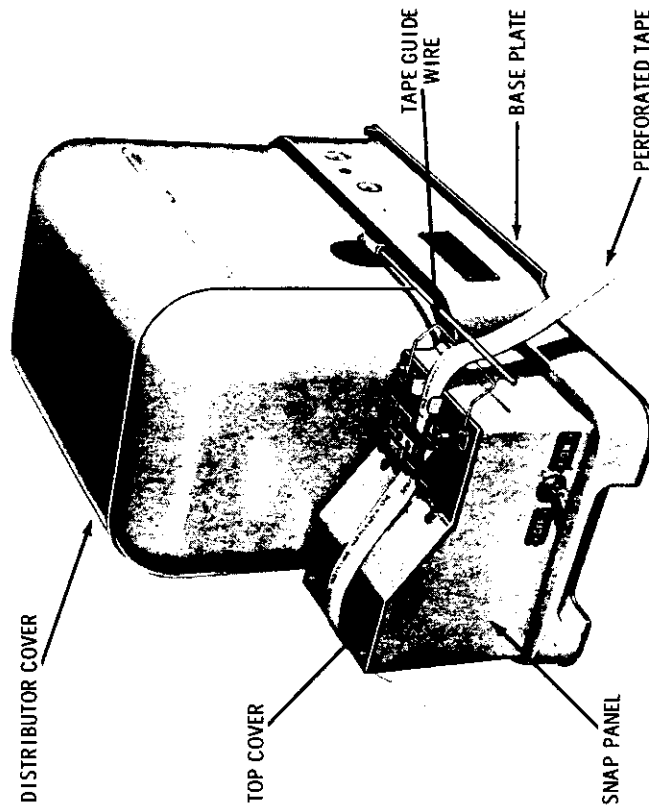

Figure 8-8 The Transmitter Distributor
There are two types of transmission by teletypewriter, manual and automatic. Manual transmission is made directly from the keyboard by the operator. Automatic transmission is controlled by a perforated paper tape. The perforations on the tape correspond to the keyboard, each vertical pattern of holes representing one of the keys. As the tape is fed through a transmitter distributor (TD) (Figure 8-8), the holes in the tape allow different electrical contacts to be made which operates the printer in the same manner as the keyboard.
Feed the tape under the TAPE STOP LEVER (Figure 8-8) to the TD. Always be sure the transmitter switch is in the